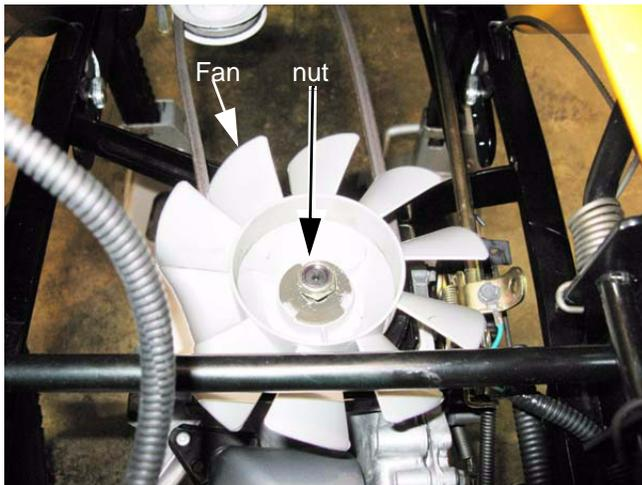

Figure 5.45
4. Remove drive belt from the transaxle pulley. See Figure 5.45.